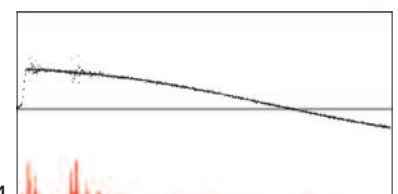

Figure 4
4. Corona/partial discharge detection with Laplace filter (Figure 4)